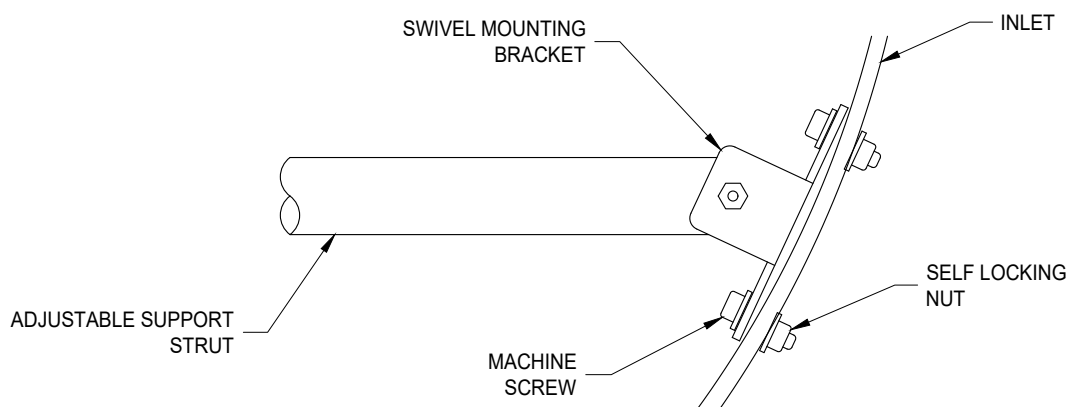

Figure 2
- Position the probe assembly in the smallest diameter portion of the fan inlet bell and make sure it is vertical (not leaning in or out relative to the inlet), then mark the locations of the eight (8) mounting holes corresponding to the four swivel mounting brackets. See Figure 2. Note: If the fan inlet has a shaft where the ELECTRA-flo/FI probe assembly will be mounted it will be necessary to separate the probe assembly into two sections and then re-assemble it around the shaft.